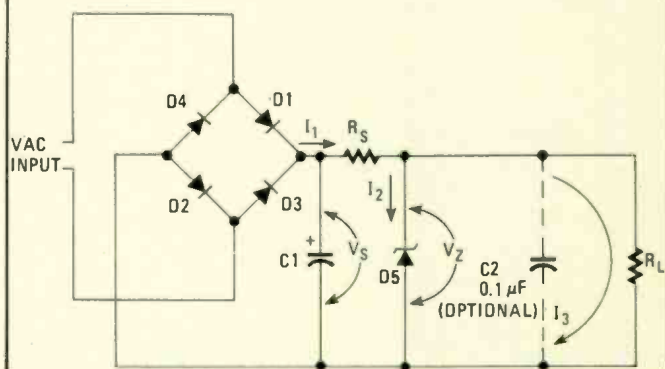

FIG. 13—ZENER-REGULATED DC power supply provides constant voltage to R_L . Capacitor $C1$ provides basic filtering keeping V_S always higher than V_Z .
Figure 13 shows a Zener-regulated DC power supply. Resistor R_L represents the load applied to the power supply (i.e. $V_Z \div I_3$). Capacitor $C1$ is the regular filter capacitor used in any DC power supply. A good rule of thumb is to make $C1$ not less than 1000- μ F per ampere of load current, or 500 μ F (whichever is larger).
Capacitor $C2$ in Fig. 13 is used to suppress avalanche *hash* noise produced by the Zener diode. In many circuits that noise is negligible, so $C2$ may be deleted.
Designing a Zener-diode regulator circuit as seen in Fig. 13 is a four-step process: (1) Determine the operating condition (explained below); (2) select the Zener potential; (3) select
Design a Zener diode voltage regulator such as Fig. 13 to provide a 6.8 VDC to a circuit that draws 75 milliamperes. The power source is an automobile battery, which normally varies 12 to 15 VDC as the engine speed changes from an idle to high RPM.